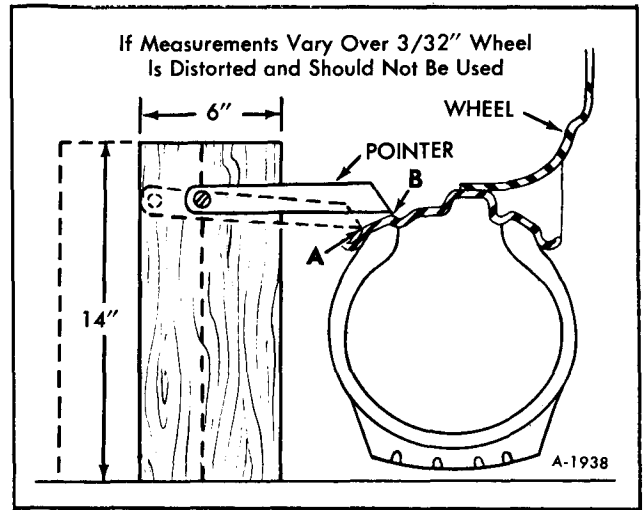

Figure 12—Method of Checking Distorted Wheels
Do not use wheels with bent rims. The continued use of such wheels will result in excessive tire wear and, if wheel is mounted on front of vehicle, difficulty in steering will be experienced. Wheels that are thought to be distorted may be checked as follows, referring to Figure 12 for checking points:
Secure block of wood approximately 6" x 6" x 14" or material with suitable base so it will remain positioned. Secure thin piece of wood or suitable material 10 inches long, such as ruler or yardstick, and fasten to wood block to a height in relation to rim surfaces as shown in Figure 12. Tighten screw sufficiently so pointer will hold its position when adjusted.
3. Position pointer at crown of rim (A, figure 12). Slowly revolve wheel and move pointer toward wheel until it contacts wheel at nearest point.
5. Place point of marker at inside of wheel at point "B", in Figure 12. Follow the previous procedure to check radial run-out (out-of-round condition); this should not exceed 3/32-inch. If wheel is distorted beyond these dimensions it should be replaced.